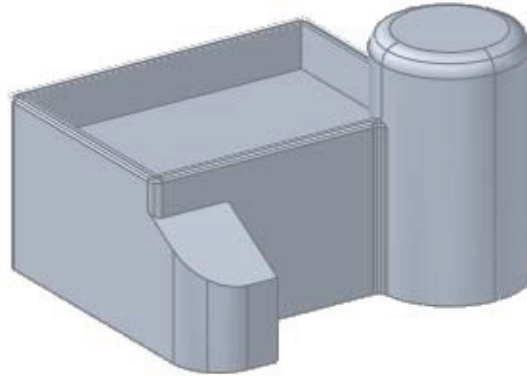

Figure 6–25
- Straight or curved edges can be filleted, as shown in Figure 6–25.